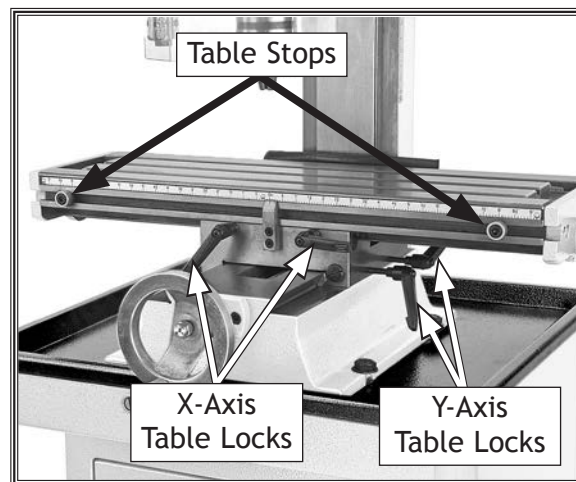

Figure 22. X- and Y-axis table travel locks.
1. Loosen both X-axis table locks shown in **Figure 22**.
The saddle does not have limit stops. To move the table along the Y-axis, loosen the Y-axis table locks shown in **Figure 22**, then use the handwheel in front of the table in the same manner as the X-axis handwheel.